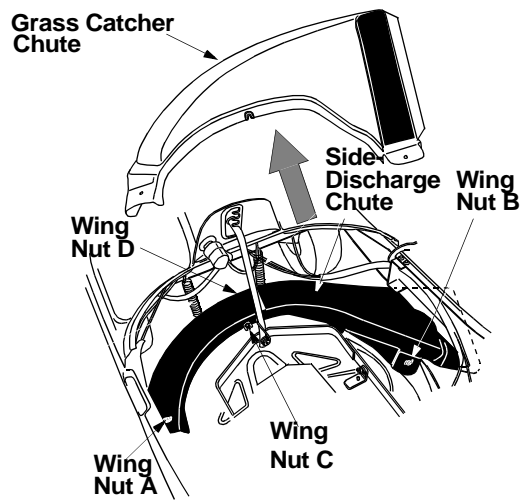

Figure 4
- Remove the two wing nuts (A and B in Figure 4) from two ends of the grasscatcher chute.
- Loosen the two wing nuts (C and D in Figure 4) in the middle of the chute. Do not remove. All four wing nuts hold the chute to the deck frame.